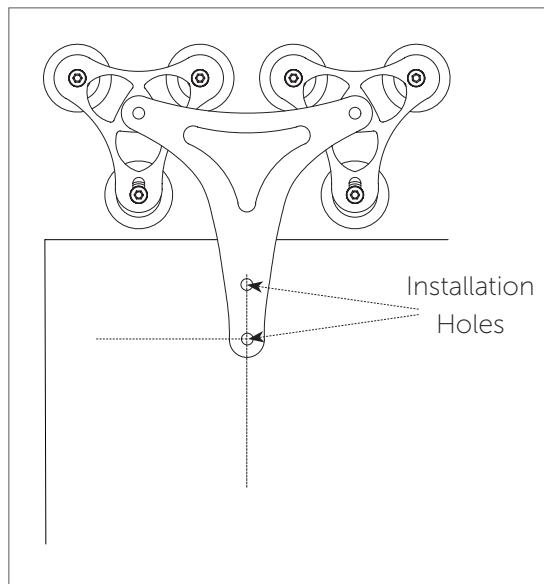

Figure 2
2. Place the hanger on the front of the door facing up with the lower installation hole over the intersecting mark (Figure 2).